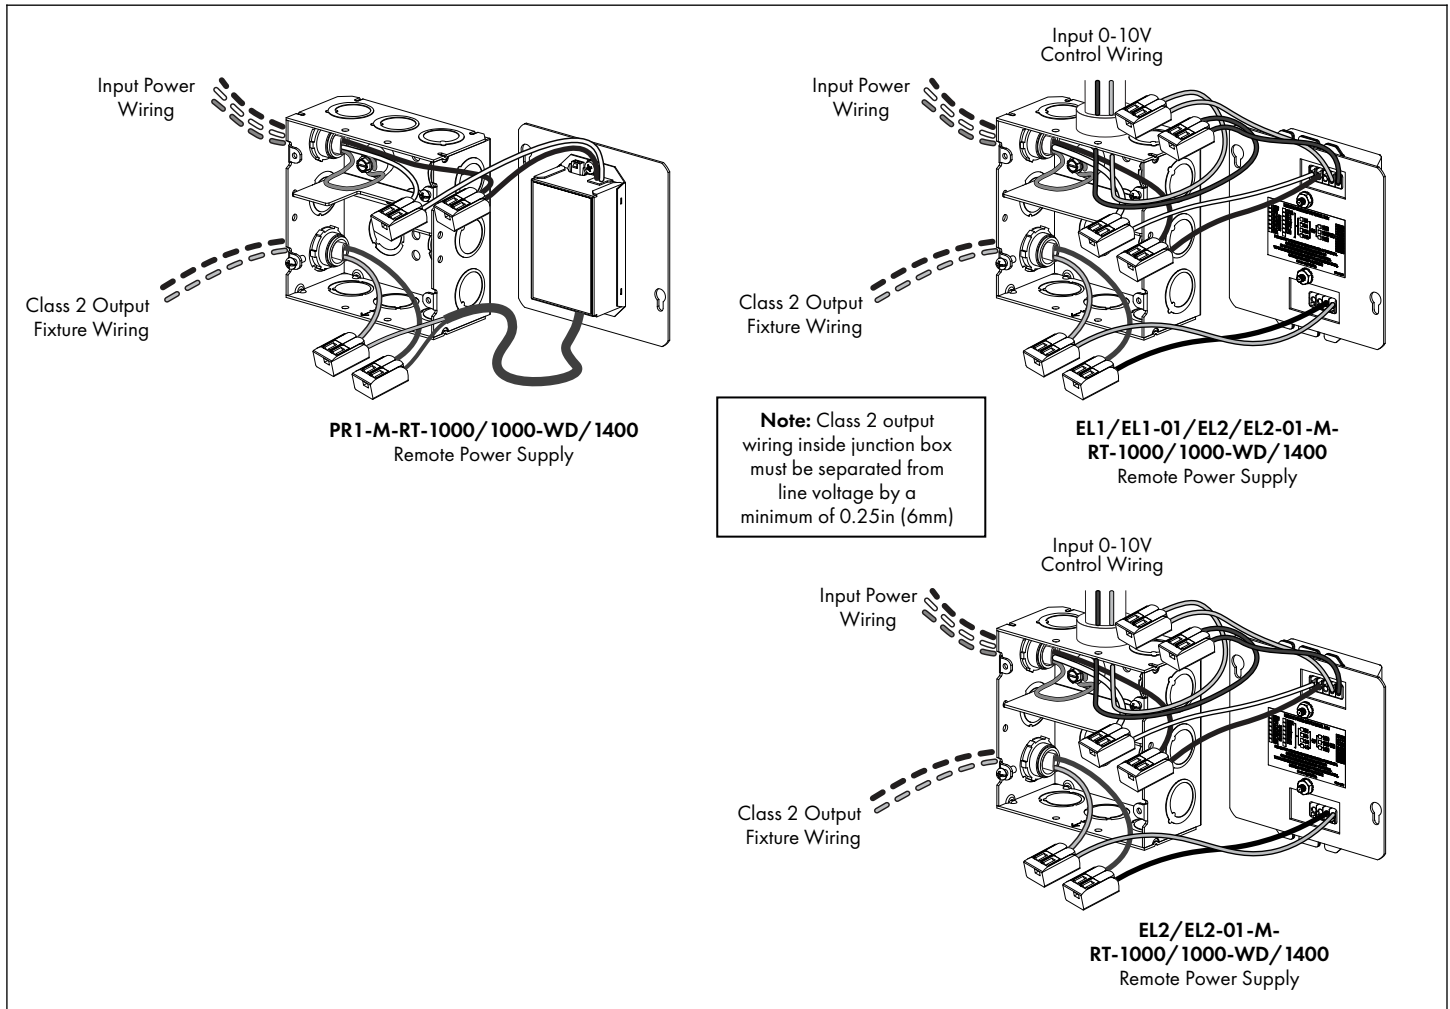

FIG 3.1 Wire & Install Remote Power Supply
STEP 1 Verify correct power supply model (see label on cover plate), LED type (see label on fixture), wire length and gauge (see chart below) and input requirements (see label on driver) - **FIG 3.1 & 3.2**.
STEP 2 Install & wire remote power supply assembly - **FIG 3.1** & Wiring Diagrams on **Pages 4-5**.